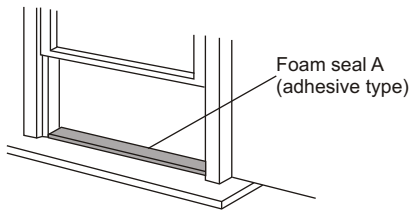

Fig. 8
1. Cut the foam seal(adhesive type) to the proper length and attach it to the window stool. Fig. 8